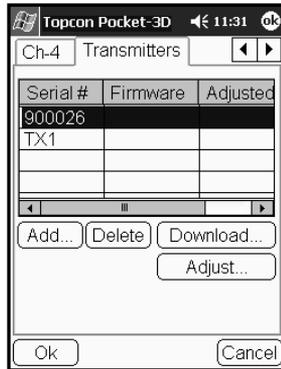

Figure 2-8. Load Transmitters into Pocket-3D
6. Tap the **right arrow** to scroll through the tabs on the *transmitter setup* dialog box. Then tap the **Transmitters** tab (Figure 2-8 on page 2-8).